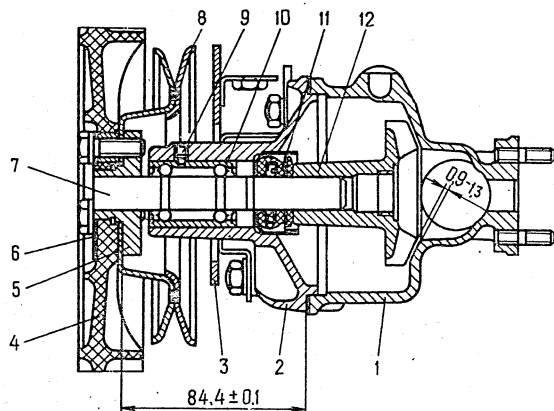

Fig.2-62. Coolant Pump. Longitudinal Section:
- detach the pump casing from cover 2 (Fig. 2-62);
- remove lock screw 9 (Fig. 2-62) and take out the bearing with the pump shaft;